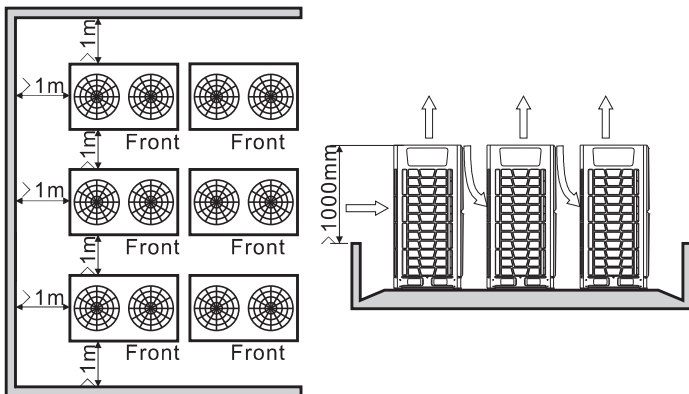

Fig. 3.12 More than 2 rows
6) When outdoor units are lower than surrounding barriers, please see Fig. 3.12; the arrangement is similar with the situation when outdoor units are higher than surrounding barriers, but to prevent the thermal exchange effect is influenced by outdoor hot air, a wind scooper shall be equipped to radiating cover of the outdoor unit, as shown in Fig. 3.12. The height of wind scooper is H-h, and the scooper shall be made by the user in the field.